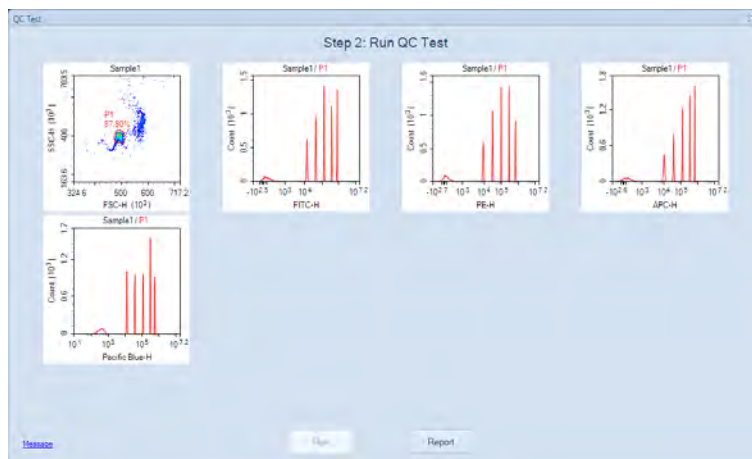

Figure 2-16 QC Test: Step 2 - Running QC Test
- 5 Click the *Run* button. The QC test will start automatically. The test will automatically stop when the desired numbers of particles are collected. The results are shown on the plots dynamically during the QC test as shown in Figure 2-16. The QC test takes about 2 minutes.